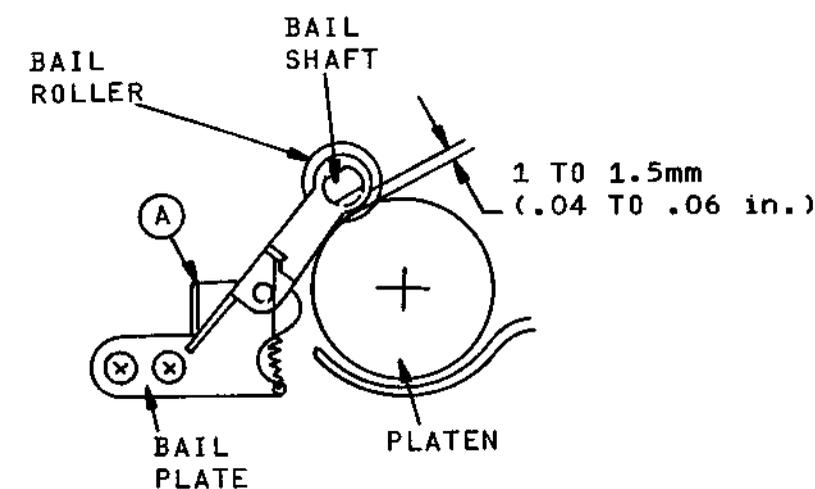

Figure 5-16 Pressure Bail Roller Adjustment
### 5.13 PRESSURE BAIL ROLLER ADJUSTMENT (Figure 5-16)
- Slide the bail rollers (Figure 5-16) until they are outside the rubber part of the platen.